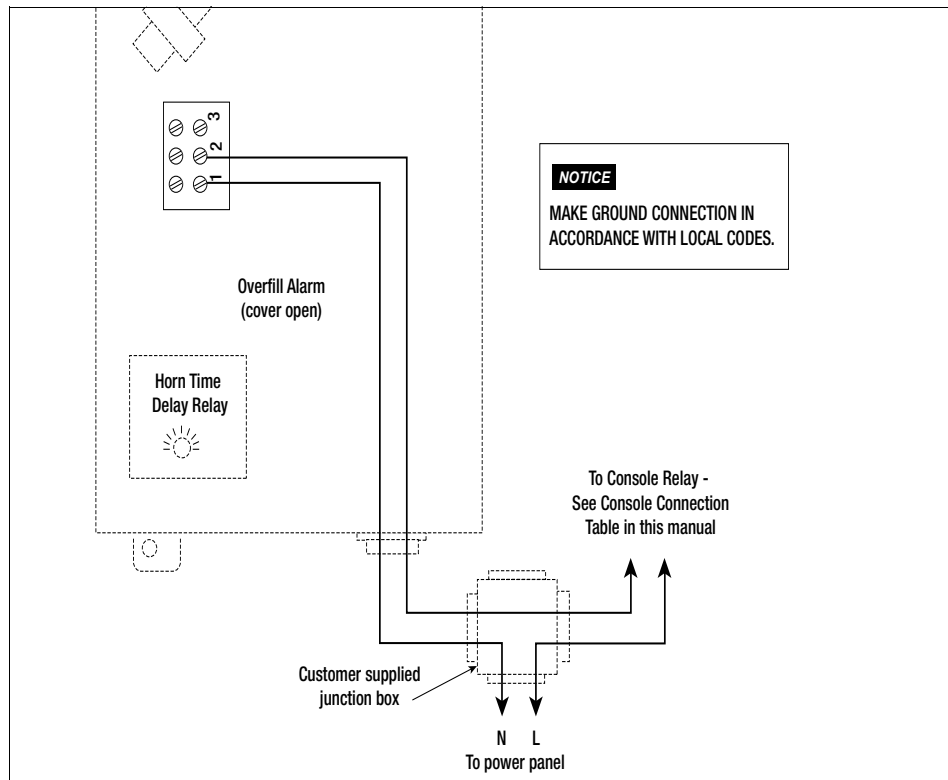

Figure 4. Overfill Alarm only wiring connections
- Figure 4. Overfill Alarm only wiring connections 7
4. Turn power Off and connect wiring according to the wiring diagram in Figure 4 and Table 1.
Overfill Alarm without Acknowledge Switch (see Figure 4)